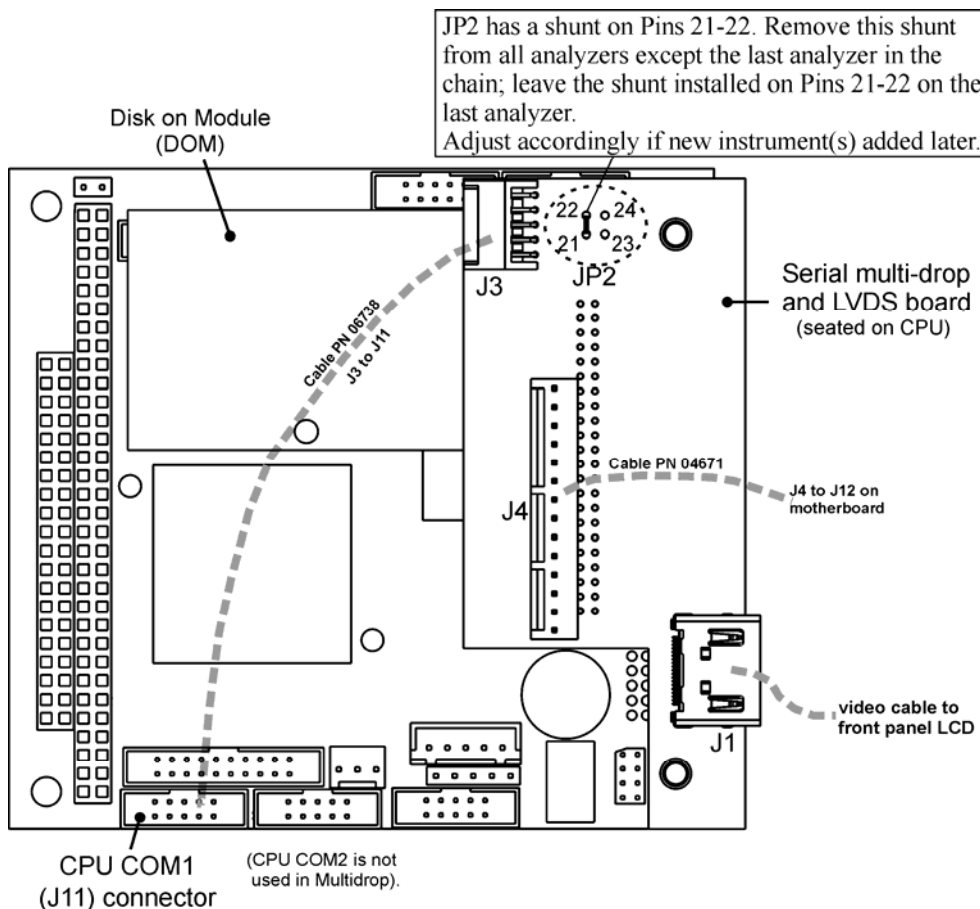

Figure 4-8: Jumper and Cables for Multidrop Mode
In each instrument with the Multidrop option there is a shunt which jumpers two pins on the serial Multidrop and LVDS printed circuit assembly (PCA), as shown in Figure 4-8. This shunt must be removed from all instruments except that designated as last in the multidrop chain, which must remain terminated. This requires powering off and opening each instrument and making the following adjustments:
2. On the Multidrop/LVDS PCA's JP2 connector, remove the shunt that jumpers Pins 21 ↔ 22 as indicated in Figure 4-8. (Do this for all but the last instrument in the chain where the shunt should remain at Pins 21 ↔ 22).
3. Check that the following cable connections are made in *all* instruments (again refer to Figure 4-8).